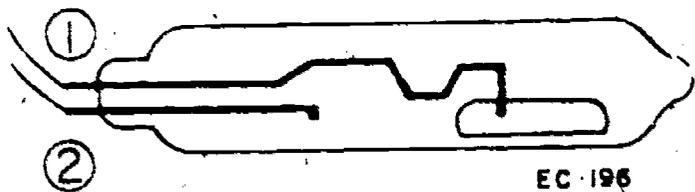
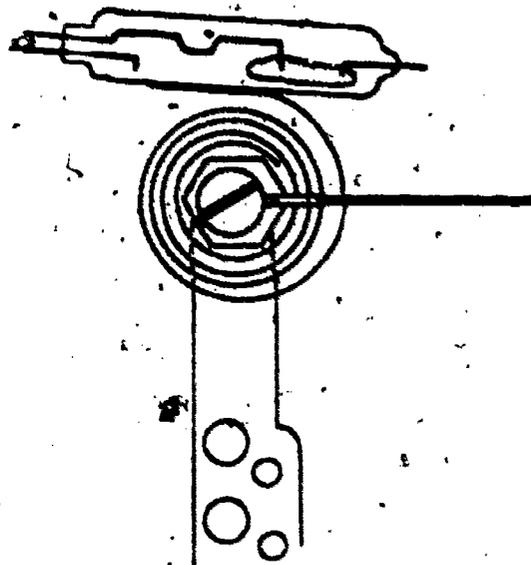

Figure 3. SPST Mercury Switch
Figure 5. Mercury Switch and Bimetal
**MERCURY SWITCHES.** These switches perform the same switch actions as the snap acting, but in a different manner. The switching is accomplished by a globe of mercury moving between two or three fixed probes sealed within a glass bulb. The mercury bulb is attached to the thermostat bimetal. Figures 3 and 4 illustrate an SPST and an SPDT mercury switch. Figure 5 illustrates a mercury switch attached to the bimetal.